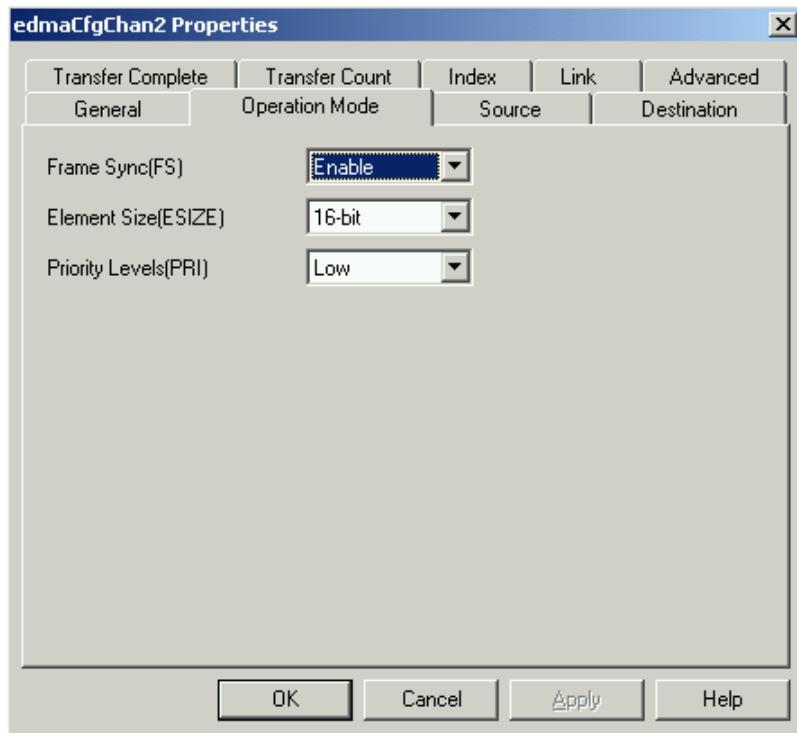

Figure 3. EDMA Chan2 Operation Mode Tab Options
2. EDMA channel 2 is used to trigger a new conversion. Right click on edmaCfgChan2. In the General tab, you may choose to enter a comment saying it is a start conversion channel. In the operation mode tab select the options shown in Figure 3. Enabling Frame Sync causes an EDMA transfer when a Timer0 event occurs. In this case it is a 16-bit read into a variable called temp.